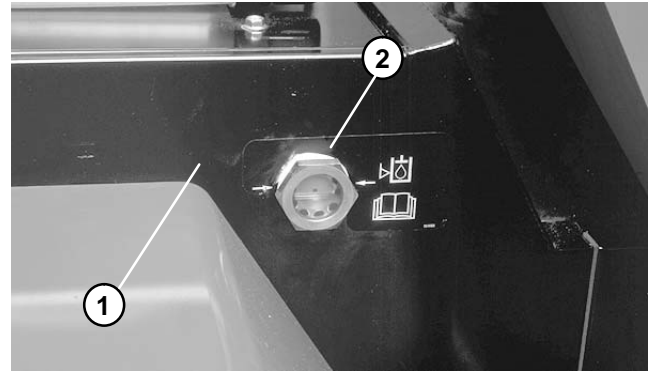
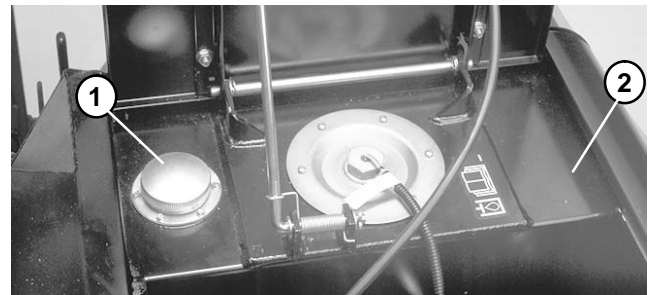

Figure 51
Figure 52
Capacity of the hydraulic reservoir is approximately 9.3 gal. (35.2 L). With machine on a level surface, hydraulic oil level should be 1/4 to 1/2 inch below arrows on sight glass, when oil is cold. Warm oil should be even with arrows on sight glass. If level is low, add hydraulic oil. Refer to Hydraulic Oil Specifications (Fig. 51).
2. Clean around reservoir filler cap (Fig. 52). Remove cover and add hydraulic oil until it is even with arrows on sight glass (Fig.51).